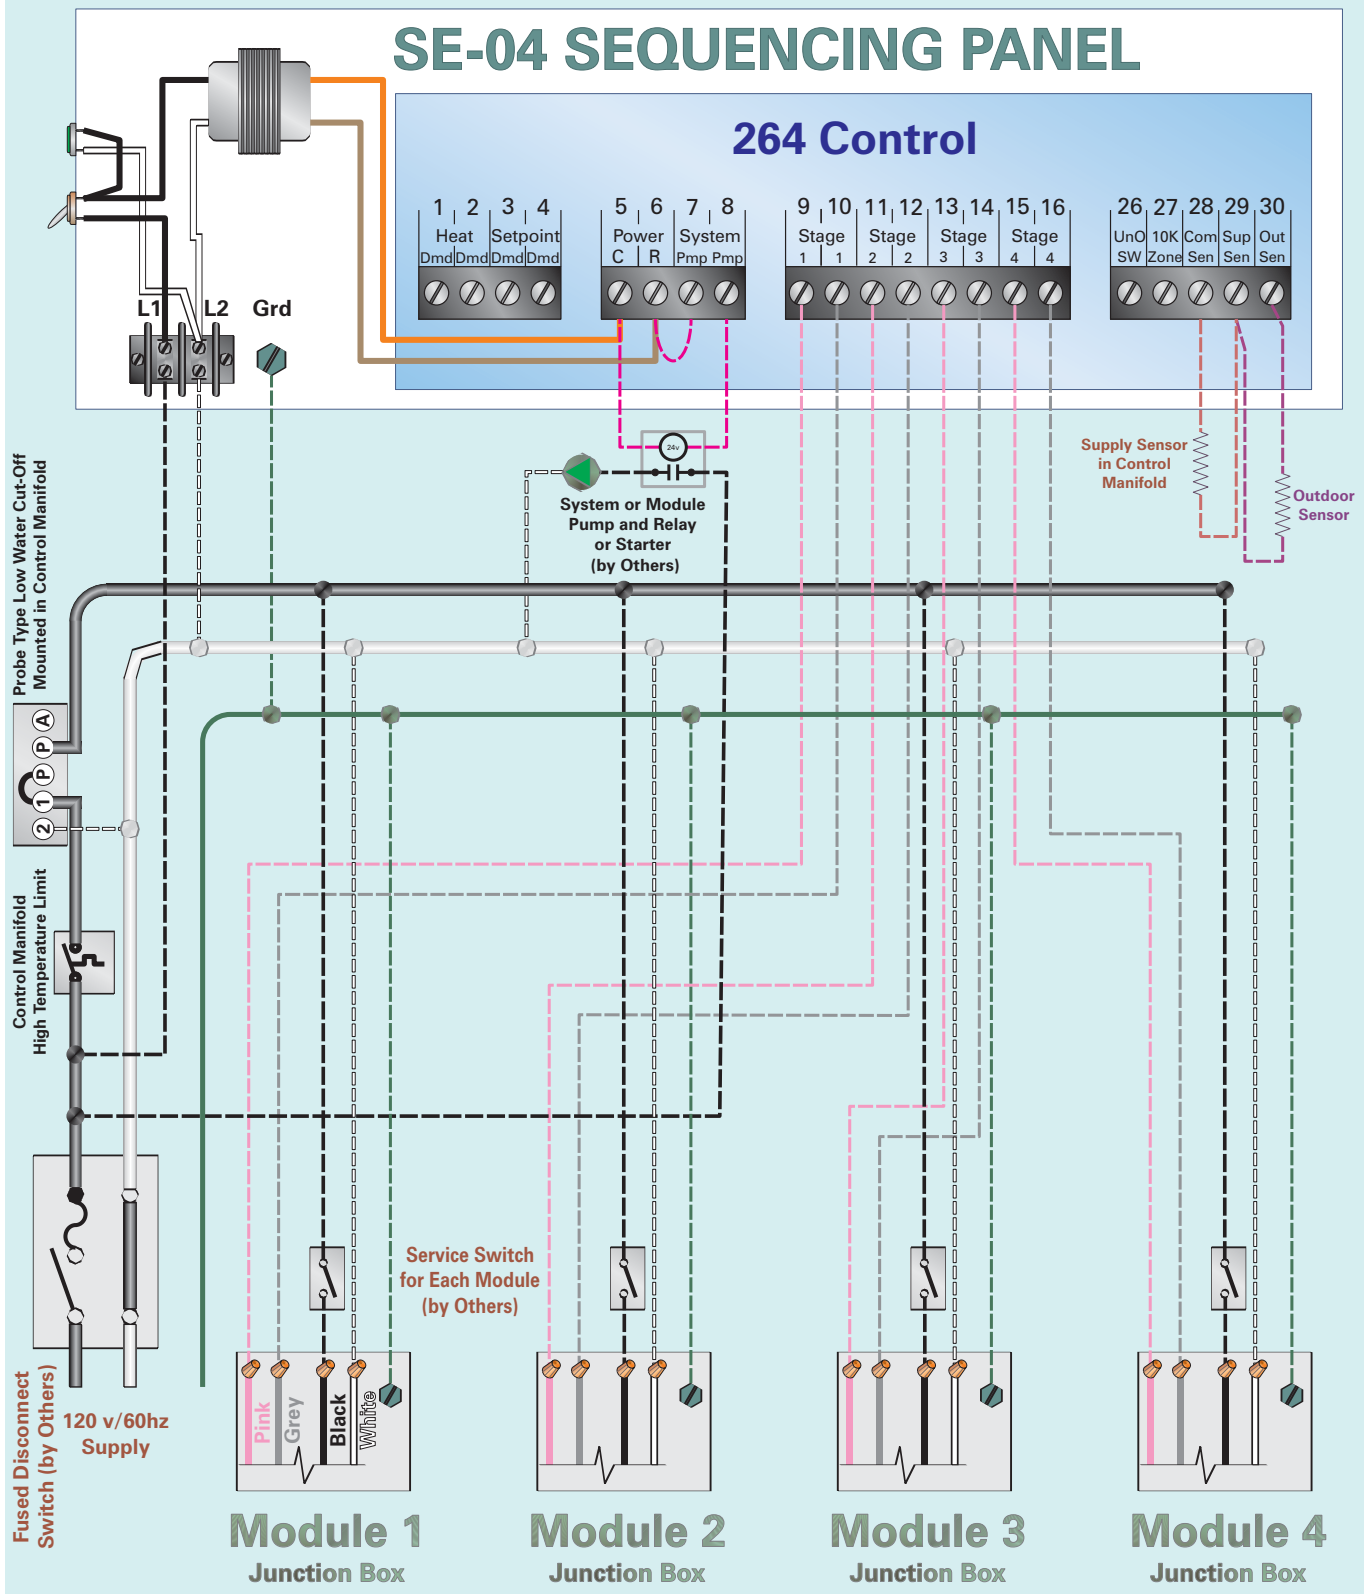

Figure 8.5: Typical Field Wiring Using a FLEX-HEAT® Sequencer (Parallel Piping)
3. Vent Dampers (where used) – continuous power must be supplied to the boiler transformers for the vent dampers to close in the off-cycle. This is most easily done using the FLEX-HEAT® circulators as shown in Figure 8.5.
4. See Figure 8.5 for an example of near boiler wiring and piping using the FLEX-HEAT® Sequencer in a combination space and domestic water system.
Diagram shows basic wiring of the 262 control. See Figures 8.5 and 8.6 for wiring of the system low water cutoff, system limit control, boiler junction box and circulators. When using vent dampers and primary-secondary pumping, Flex-Heat circulators or separate circulator relays must be used to allow the dampers to close when the call for heat ends (See Figure 8.5).
Diagram shows basic wiring of the 264 control. See Figures 8.5 and 8.6 for wiring of the system low water cutoff, system limit control, boiler junction box and circulators. When using vent dampers and primary-secondary pumping, Flex-Heat circulators or separate circulator relays must be used to allow the dampers to close when the call for heat ends (See Figure 8.5).
Diagram shows basic wiring of the 268 control. See Figures 8.5 and 8.6 for wiring of the system low water cutoff, system limit control, boiler junction box and circulators. When using vent dampers and primary-secondary pumping, Flex-Heat circulators or separate circulator relays must be used to allow the dampers to close when the call for heat ends (See Figure 8.5).